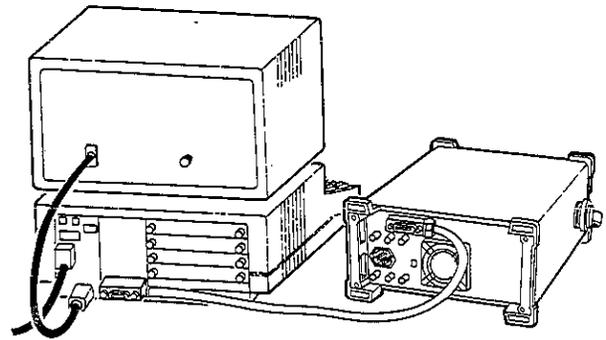

Figure 1-2
1. Connect the spectrum analyzer to the computer using the HP-IB cable. Figure 1-2 shows an HP Model 9836 connected to the analyzer.